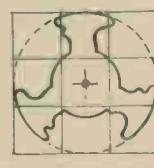

Fig. 5—How the leg pieces are marked out and cut.
its long edges the sides (J) are attached. Then in between the sides the upright (K) is glued, a detail of this piece being included in Fig. 5.
The whole truck portion can now be made up independently as shown in Fig. 5, and afterwards attached to the rails (H). The floor (I), of the truck is a plain oblong 5ins. by 3ins., and to